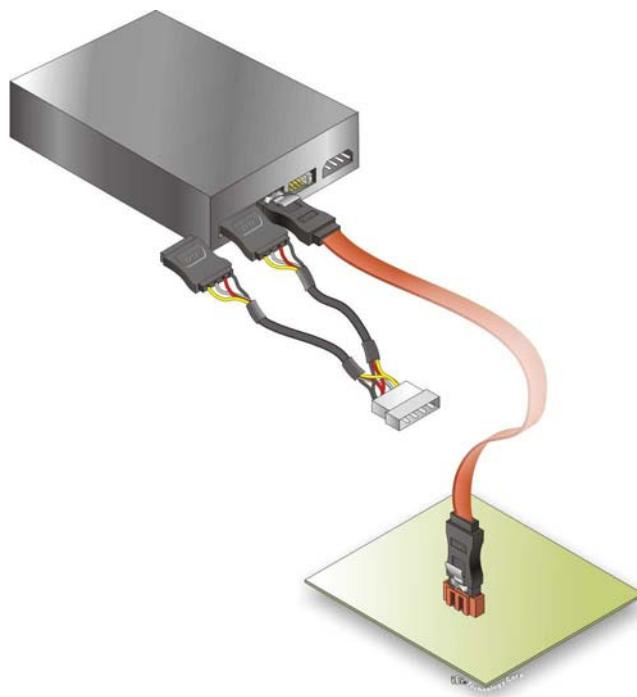

Figure 4-11: SATA Power Drive Connection
Step 3: Connect the cable to the SATA disk. Connect the connector on the other end of the cable to the connector at the back of the SATA drive. See **Figure 4-11**.
Step 4: Connect the SATA power cable (optional). Connect the SATA power connector to the back of the SATA drive. See **Figure 4-11**.